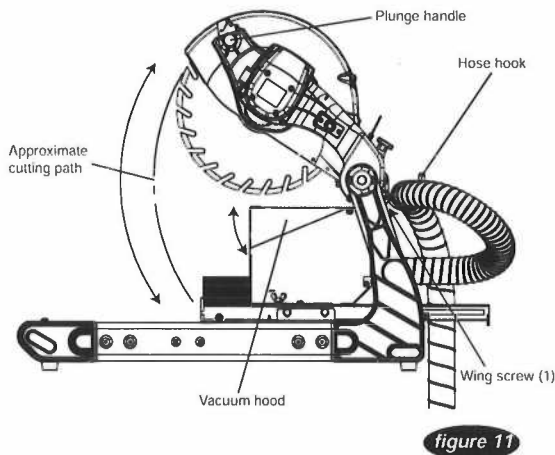

figure 11
7. The vacuum hood can be set to (see figure 11):
- To adjust the angle lock pin, firmly hold the plunge handle and pull on the head of the pin. If the pin does not move, push the plunge handle down slightly until the pin unbinds. (see figure 11 and 13)